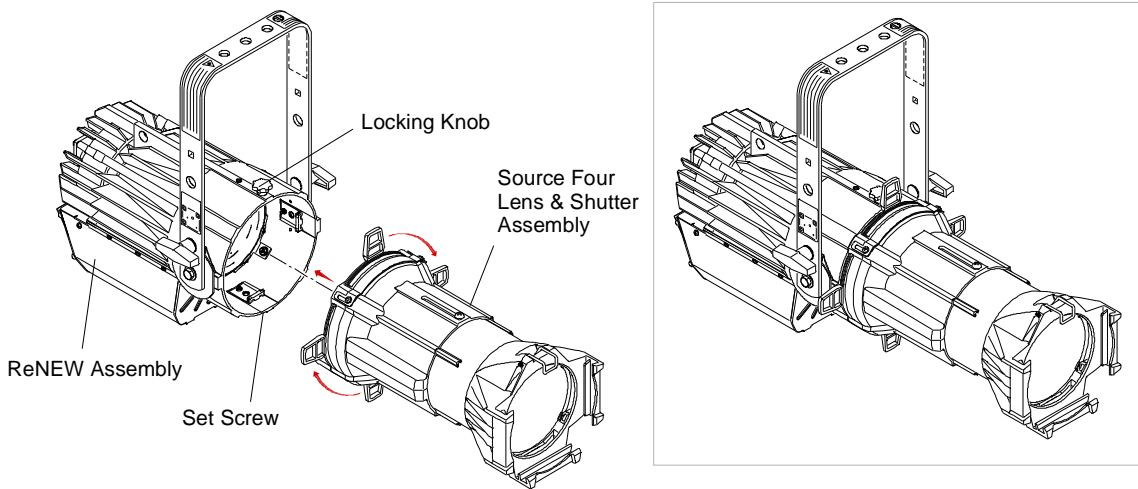

Figure 2: Attaching Source Four Lens Assembly
- Step 1. Insert ETC Source Four Lens & Shutter Assembly (not included) into ReNEW housing (**Figure 2**).